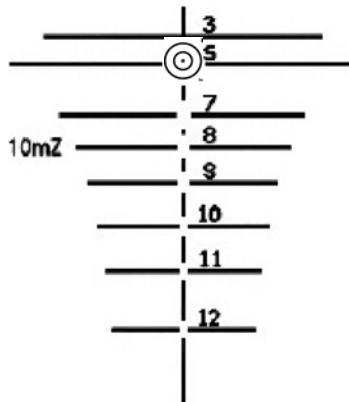
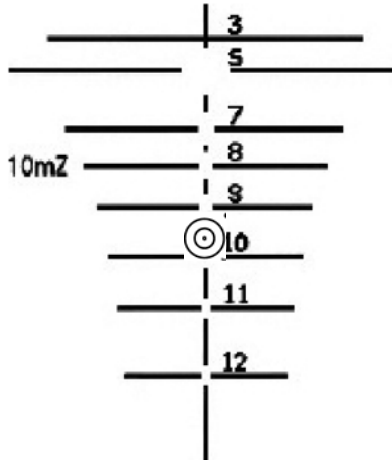

Figure 2-4: 500m Zero Aimpoint
Figure 2-5: 10m Zero Aimpoint
1. Look through the sight with proper eye relief and align the appropriate aiming point onto the center of the target (Figure 2-4 for 500m zeroing and Figure 2-5 for 10m zeroing).